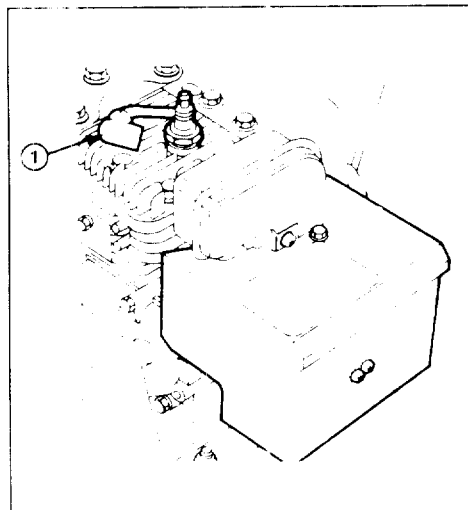

Figure 30
2. Pull wire off spark plug (Fig. 30) and remove plug from cylinder head.
4. Push the wire onto the spark plug (Fig. 30).